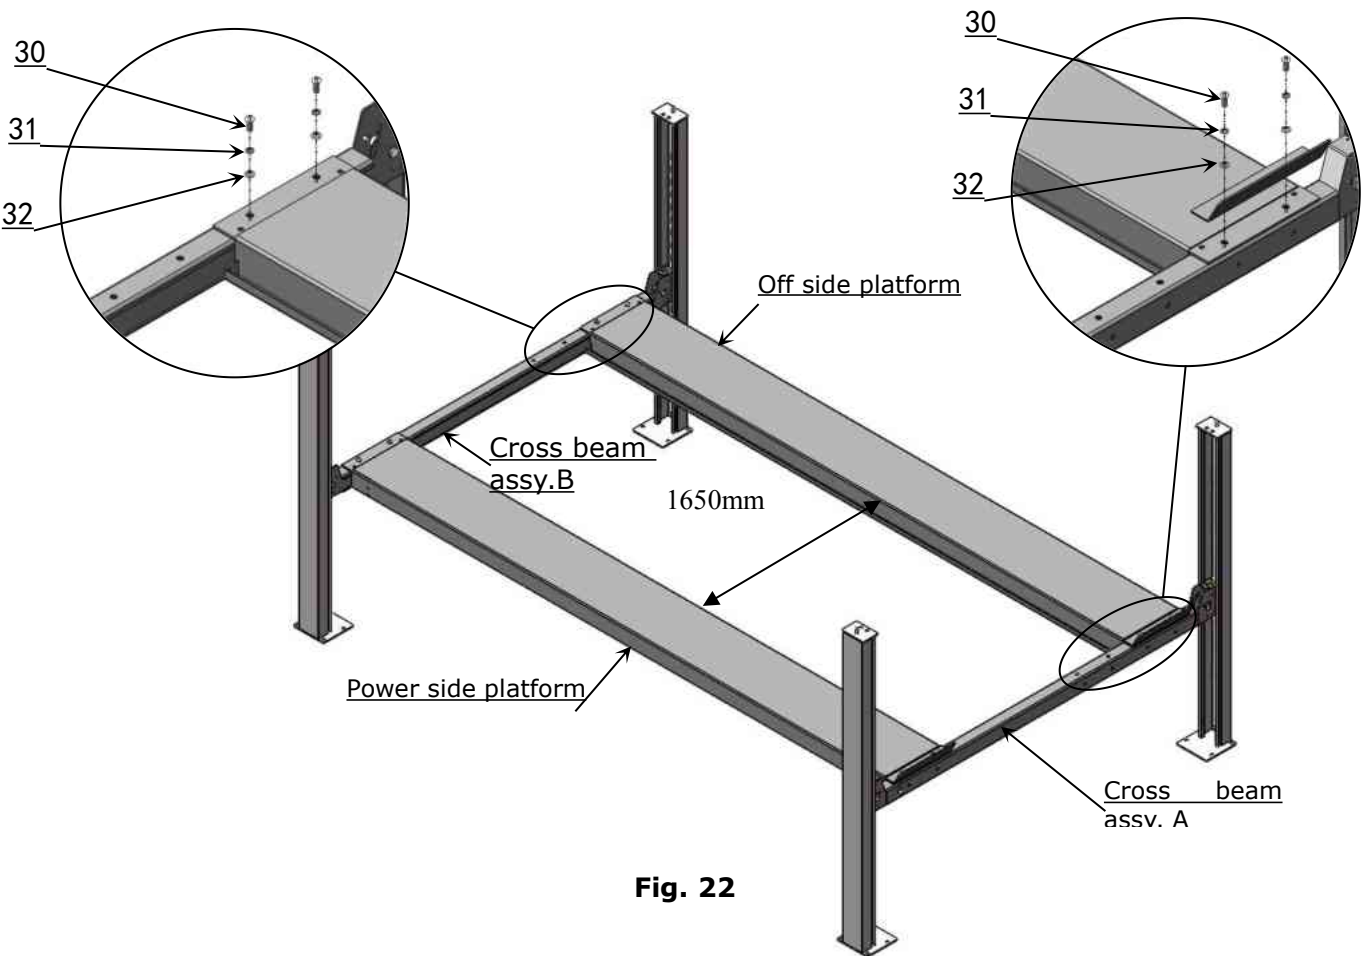

Fig. 22
3.In the same way, place the off side platform on cross beams, align the holes and tighten with bolts. Fig 22 for wider installation, Fig 23 for narrow installation.